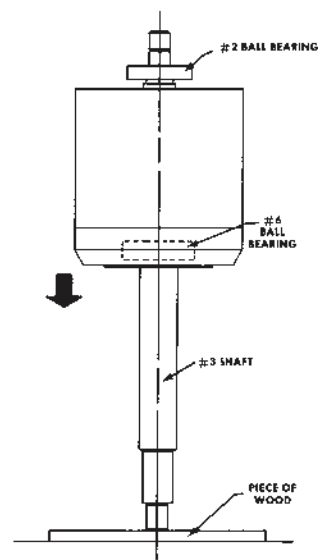

FIG. 1
**BALL BEARING REPLACEMENT...**Follow the above steps to stem removal. Remove screws in fan cover & remove cover, loosen set screw in fan and remove fan, remove four screws securing upper end bell to stator and remove end bell, remove screws in bearing retainer, lay a block of wood or some other soft material on the floor and tap the shaft and ball bearing out of the stator and lower end bell using the weight of the stator as you drop the shaft on the block of wood lightly. (Fig. 1) Tap the old bearings off the shaft and install new ones by following the instructions on page 10. To reassemble, reverse procedure.
Using an arbor press, the bearing may be laid on a face block which contacts only the bearing inner ring and which has a hole diameter greater than the bearing bore, as shown in figure 1. The shaft is pressed through the bearing until it is seated firmly against the shaft shoulder.